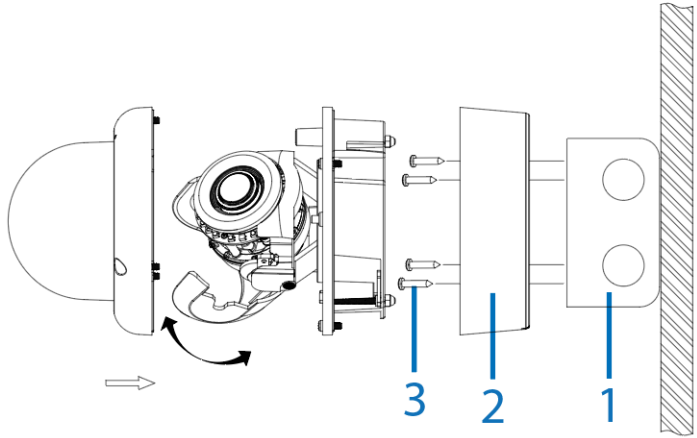

Figure 9
2. Insert the four screws anchors onto the four holes on the junction box (1) (Figure 9).
3. Hold the camera bottom case (2) (Figure 9) up to the junction box and align the four holes on the camera bottom case with the four holes on the junction box
4. Insert the four TP 32mm screws (3) (Figure 9) and securely attach the bottom case to the junction box.